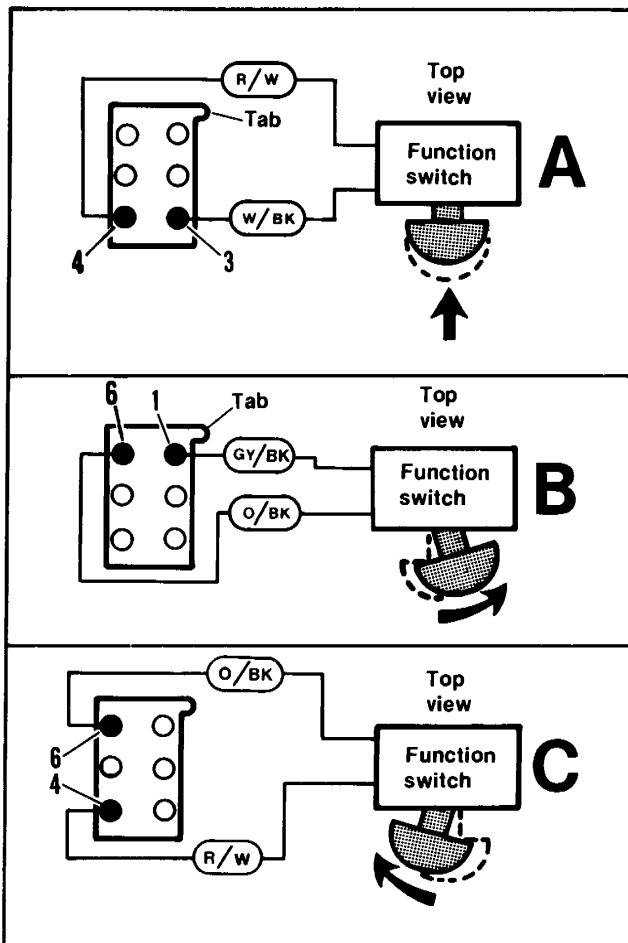

Figure 2-121. Function Switch Test
2. Refer to Figure 2-121, View A. With ohmmeter, place probes on pins (3) and (6), and push function switch straight inward. Meter should register zero ohms. A resistance reading significantly higher than zero indicates the switch contacts are not closing and the switch should be replaced. Release the switch control knob. The meter should now register infinite ohms. If the meter registers a reading other than infinite ohms, the contacts are not fully opening and the switch should be replaced.
3. Refer to Figure 2-121, View B and C. Place the meter probes on the pins and move the switch control knob in the direction shown. The meter should indicate zero ohms when moved to either side with the probes at appropriate connector pins. The meter should register infinite ohms when the switch knob is released.